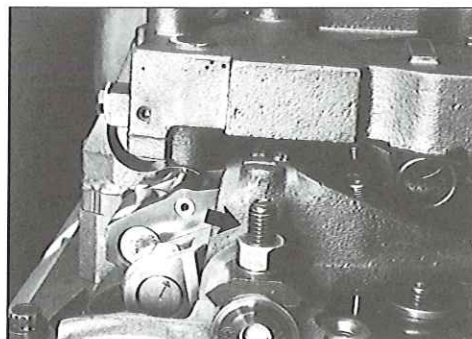

FIG. 63
8. Check the torque on the rocker shaft studs to be sure they were not loosened when the nuts were removed (Fig. 63). Tighten the studs to 80 lb.-ft. (110 N•m).